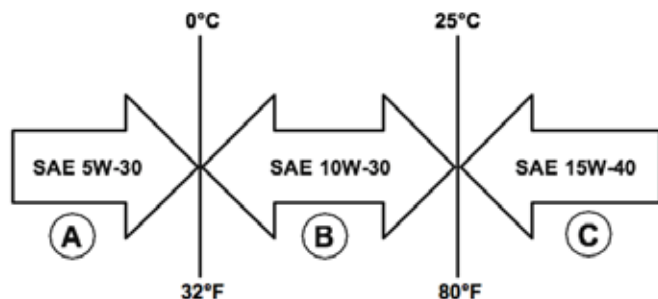

Figure 8: Recommended oil
1. Only use the engine oil specified in Figure 8.
6. Select the proper engine oil as specified in Figure 8.